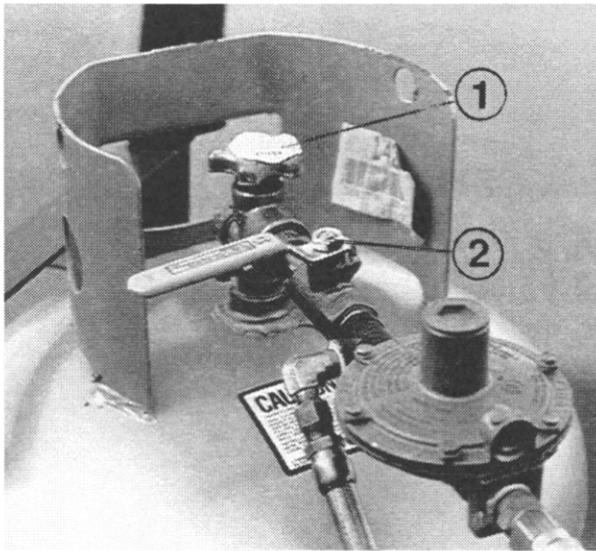
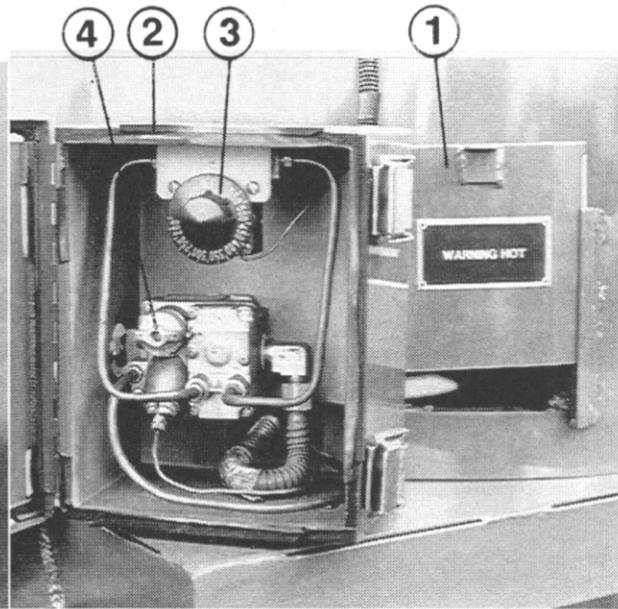

FIGURE 8
FIGURE 9
Open LPG tank valve (1) Figure 8. Open in line ball valve (2) Figure 8. Open propane burner access door (1) Figure 9. Open burner control box (2) Figure 9. Turn temperature control off (3) Figure 9. Turn pilot control to pilot (4) Figure 9, push pilot control in and light pilot light. Pilot light is inside propane burner access door. Hold pilot control until pilot remains lit when control knob is released. After pilot is burning, turn knob on gas regulator to **On**. Turn temperature dial (3) Figure 9, to desired setting. Burner should ignite. Close access door.
Close LPG tank valve (1) Figure 8. Wait for burner to flame out. Close in line ball valve (2) Figure 8, and turn temperature control to off (3) Figure 9.